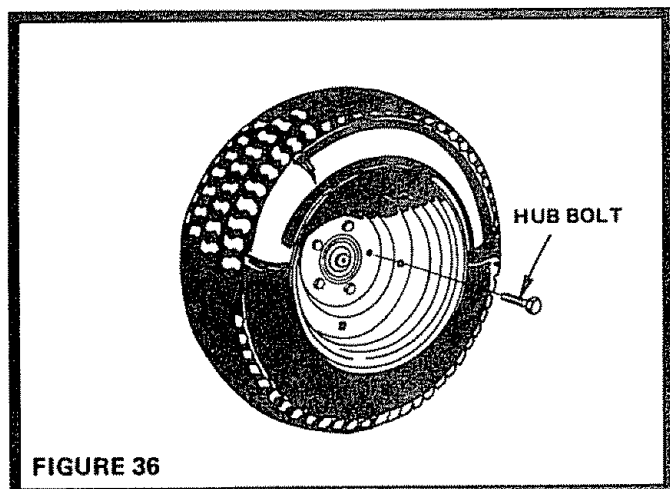

FIGURE 36
- a. Block up Rear Axle securely or use a Tractor Jack. Remove left Rear Wheel by removing Hub Bolts (Fig. 36).
- e. Removing rear wheel for tire repair (Fig. 36).
- Remove (5) Hub Bolts to allow wheel removal.